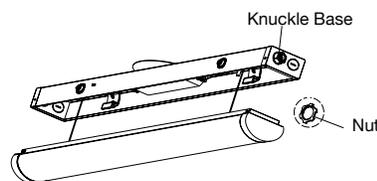

Fig. 3
3. Remove the 1/2" plug from the luminaire and install the knuckle base. Ensure the wires are inside the luminaire. Secure with the nut (Fig. 3 & 4).